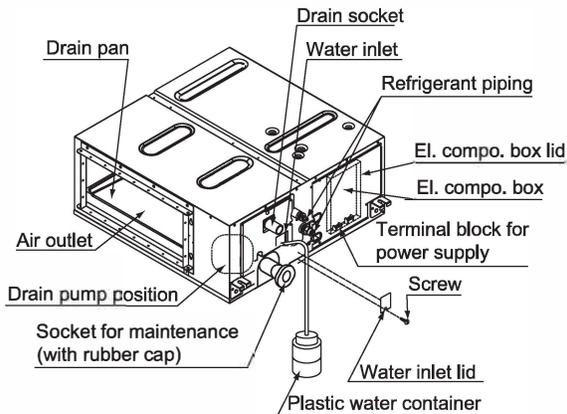

Fig. 15
- Gradually pour 1 litre of water from the inspection port at the bottom of the drain socket on the left side of the drain pan giving caution to avoid splashing water on the electric components such as drain pump and confirm drainage by operating the indoor unit under cooling mode according to 10. FIELD SETTING. (Refer to Fig. 15)
3. Gradually pour 1 litre of water from the air outlet on the left side of the drain socket into the drain pan giving caution to avoid splashing water on the electric components such as drain pump. (Refer to Fig. 15)